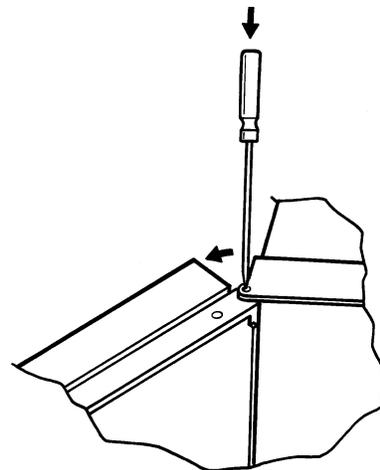

Figure c2.1b Door Hinge pin detail
- Using a small screwdriver, or similar, press down on the sprung pin at the top of the door as shown in figure C2.1b.